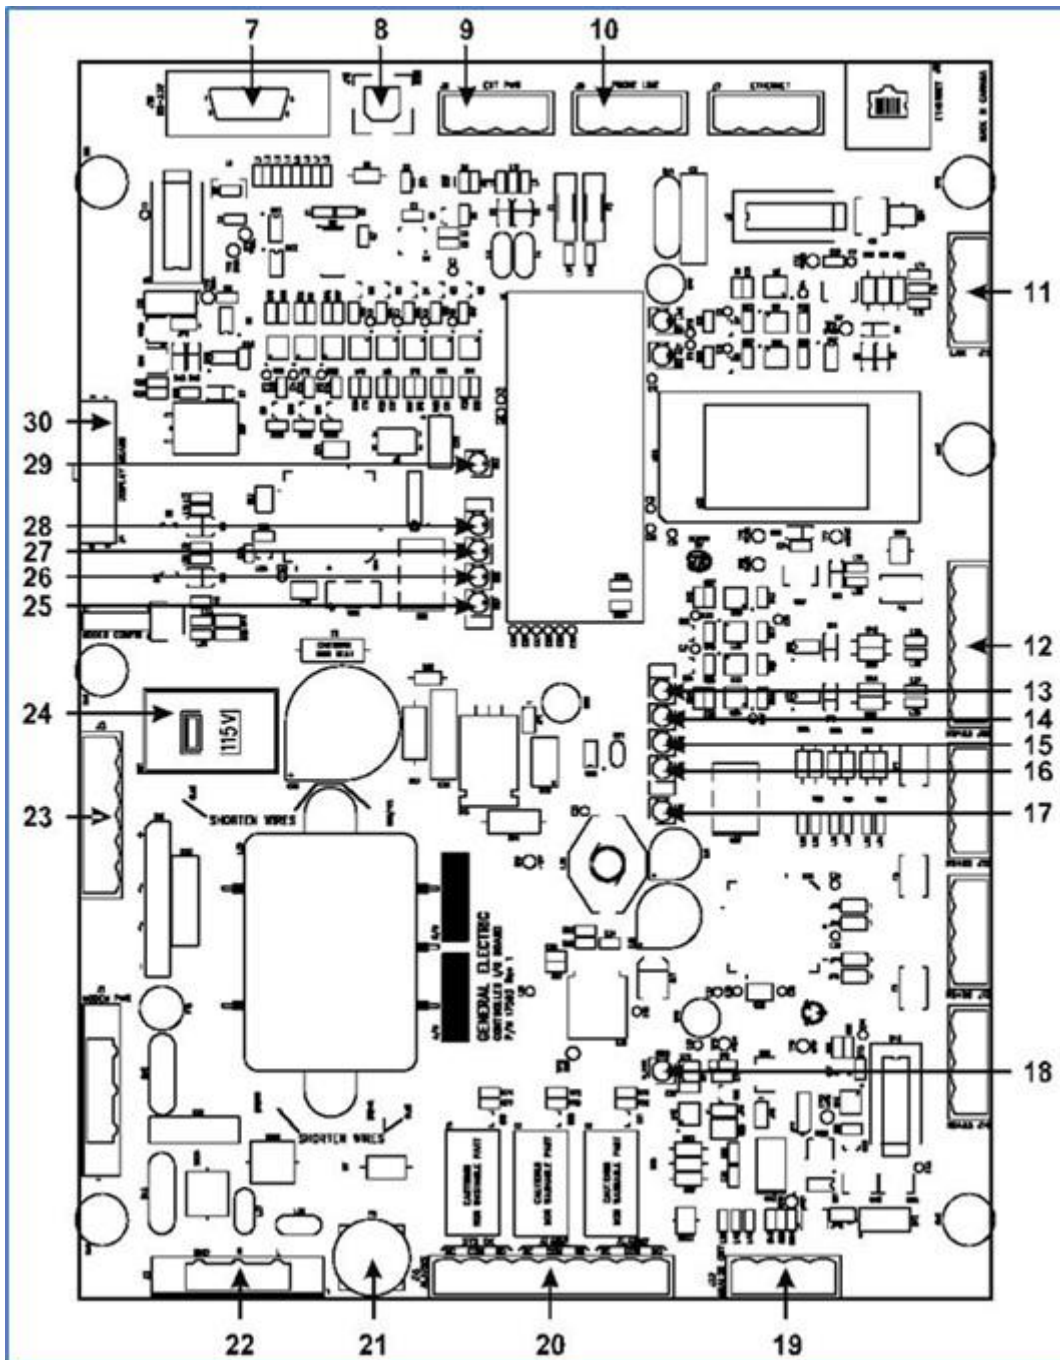

Figure 4-7: Circuit Board of the Hydran 201Ci-1
The circuit board of the Hydran 201Ci-1 is presented in Figure 4-7 below.
7. Figure 4-7 RS-232 Computer Port Connector, DB-9 Male (J10): This standard connector is used to interface the H201Ci-1 directly to a PC or to a smart modem. For wiring details, see Table D - 13. The J16 USB computer port (item 8 in Figure 4-7) is also available.
8. *USB Computer Port Connector, Type B (J16)*: This connector is available to interface the H201Ci-1 directly to a PC or to a smart modem. The RS-232 computer port (J10) can also be used (item 7 in Figure 4-7).